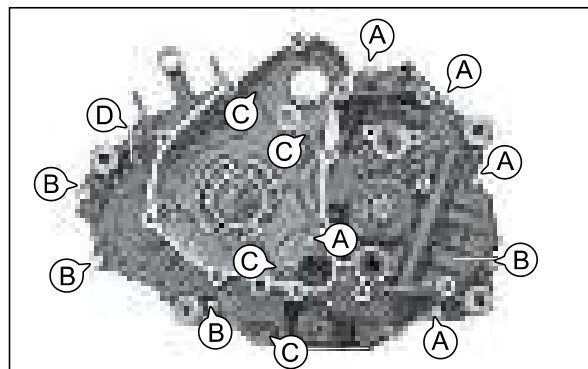

Fig. 3.144
- Remove hexagonal flange bolts (M6x55 - 5 Nos. (A), M6x40 - 4 Nos. (B), M6x75 - 4 Nos (C) and M6x95 - 1 No. (D) from the crankcase mounting. (Fig. 3.144)